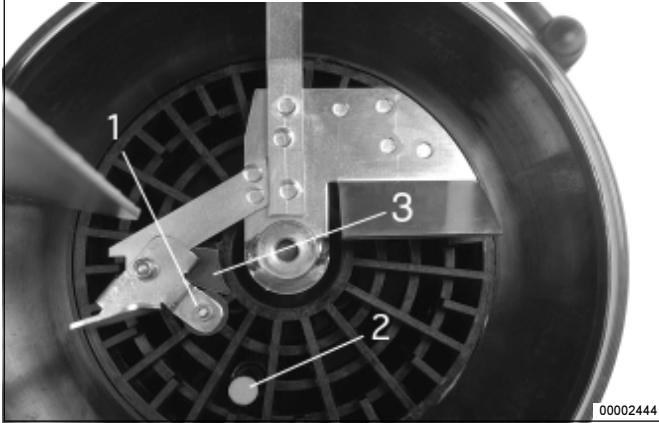

Fig. 17 - Switching parts of the low-level control
- Due to the rotating motion of the stirring paddle in the lubricant the pivoting guiding plate with the round solenoid, item 1 Fig.17, is pressed backwards. The solenoid moves toward the center of rotation of the stirring paddle. The electromagnetic switch item 2 **cannot** be activated.
- Control cam item 3 guides the round solenoid with the pivoting guiding plate automatically outwards, in the direction of the reservoir wall. After the lubricant has left the control cam, it flows against the guiding plate, thus displacing the solenoid again onto the center of rotation of the stirring paddle.